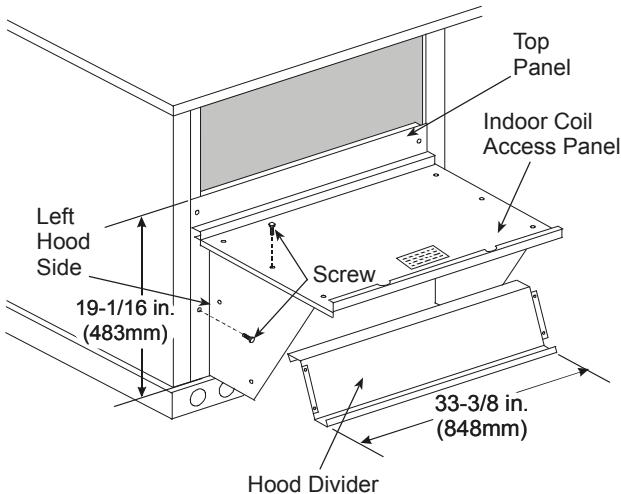

Fig. 12 – Economizer Hood Construction
2. Swing out indoor coil access panel and insert the hood sides under the panel (hood top). Use the screws provided to attach the hood sides to the hood top and the unit. See Fig. 12.
4. Insert the hood divider between the hood sides. See Fig. 12 and 13. Secure hood divider with 2 screws on each hood side. The hood divider is also used as the bottom filter rack for the aluminum filter.